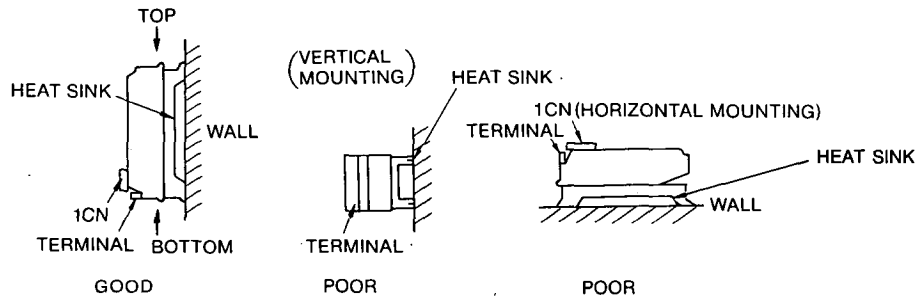

Fig. 9.5 Mounting Direction
Mount the unit vertically on the wall using the mounting holes (4) on the base plate, with main terminals at the bottom. (Fig. 9.5)